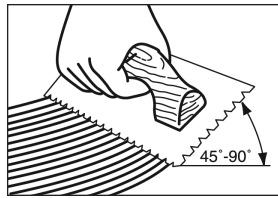

Figure 9
- Hold trowel at a minimum 45° angle (Figure 9) firmly against the subfloor to obtain a 40-60 ft.2 (4-5.5 m2) per gallon spread rate (30-35 ft.2 per gallon for Summit spread with the included Summit All-In-One trowel) The trowel will leave ridges of adhesive and very little adhesive between the ridges. This will allow you to still see the chalk lines between the ridges and provide the recommended spread rate.